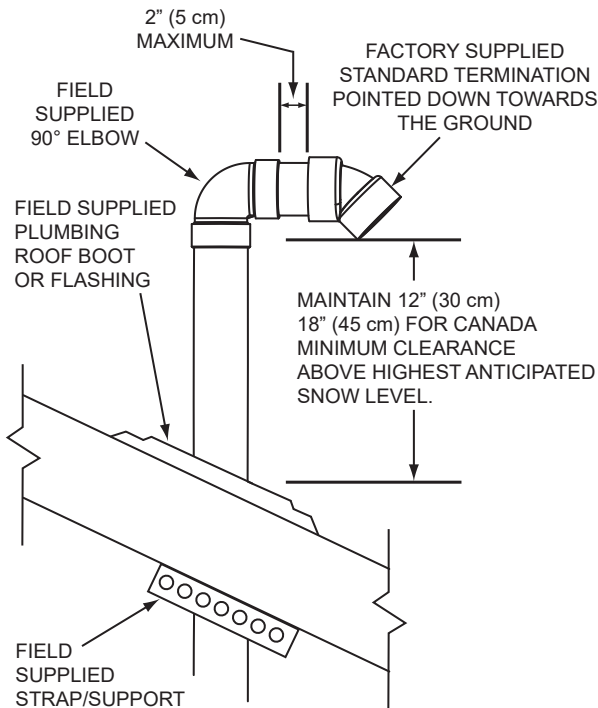
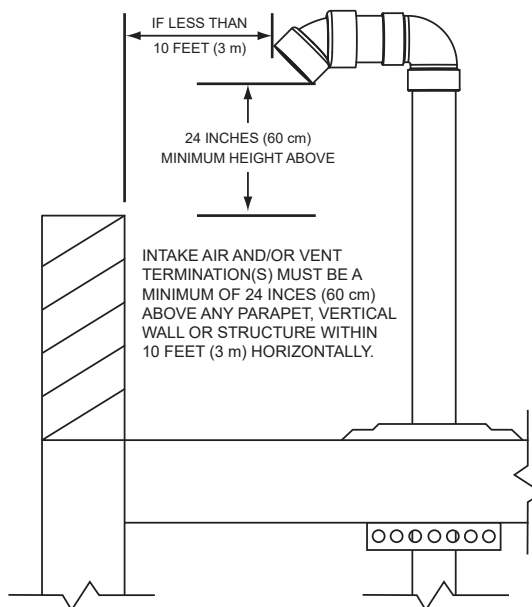
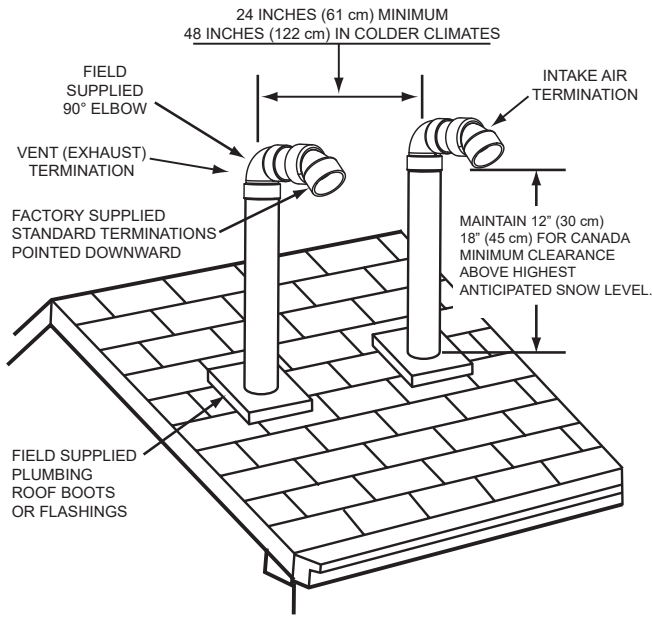

Figure 35. Vertical Termination(s) Installation
Figure 36. Vertical Termination(s) Flat Roof Parapet Clearance
Figure 37. Vertical Termination - Direct Vent
2. If installing only the vent (exhaust) piping in a power-vent configuration vertically through the roof, ensure that all exterior vertical clearance requirements shown in **Figure 35** and **Figure 36** (page 37) are being maintained. These clearances and those cited by local and national codes must be maintained.
Note: On flat roof installations, the vent termination must be a minimum of 24 in (60 cm) above any parapet, vertical wall, or structure within 10 ft (3 m) horizontally. See **Figure 36**.
vertical clearance requirements shown in *Figure 35*, *Figure 36* (page 37), and *Figure 37* (page 38) are being maintained. These clearances and those cited by local and national codes must be maintained.
Note: On flat roof installations, the intake-air and the vent terminations must be a minimum of 24 in (60 cm) above any parapet, vertical wall or structure within 10 ft (3 m) horizontally. See *Figure 36*.
- A. The vent termination must be oriented facing downward as shown in *Figure 35* and *Figure 36*.
- B. The bottom edge of the vent termination must be a minimum of 12 in (30 cm), 18 in (45 cm) in Canada, above the average or expected snow level as shown in *Figure 35*.
- A. The intake-air and vent pipes must penetrate the same side of the roof as shown in *Figure 37* (page 38).
- B. The intake-air and vent terminations must be oriented facing downward and in the same direction as shown in *Figure 37* (page 38).
- C. The intake-air and vent terminations must have a minimum separation of 24 in (61 cm) measured on the center line, as shown in *Figure 37*. In colder climates, this separation should increase to at least 48 in (122 cm).
- D. The bottom edge of the intake-air and vent terminations must be a minimum of 12 in (30 cm), 18 in (45 cm) in Canada, above the average or expected snow level as shown in *Figure 35* below.
The distance between the closest vent and intake-air terminations must be a minimum of 24 in (61 cm) as shown in *Figure 37* (page 38). In colder climates, this separation should be increased to at least 48 in (122 cm).
8. Suspend the pipe(s) through center of hole using field-supplied metal strapping or equivalent support materials as shown in *Figure 35*.
10. Install the factory-supplied intake-air and/or vent termination(s) using field-supplied pipe and one field-supplied 90° elbow as shown in *Figure 35*. The short section of pipe that connects between the field-supplied 90° elbow and the factory-supplied termination must not be excessive in length. The exposed portion of this pipe shall be no more than 2 in (5 cm). See *Figure 35*.